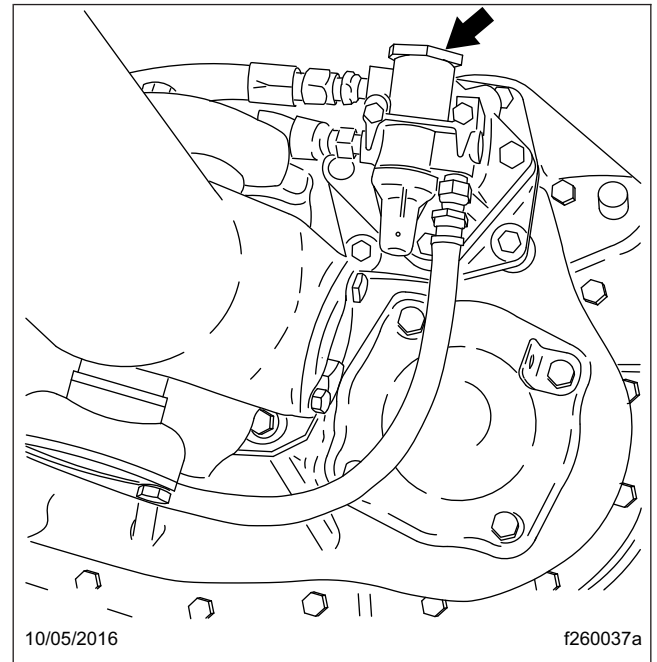

Fig. 5, Air Filter/Regulator Location
2. Clean the outside of the air filter/regulator with cleaning solvent. See Fig. 5.